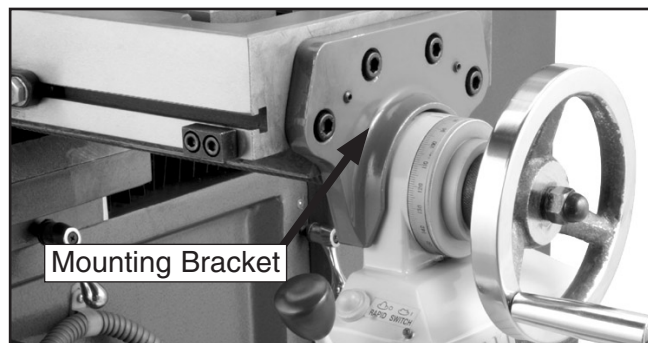

Figure 7. Example of power feed unit installed with the mounting bracket.
3. Remove the assembly, drill and tap the mounting holes, re-install the power feed assembly onto the leadscrew, then secure the mounting bracket to the table (see **Figure 7**).